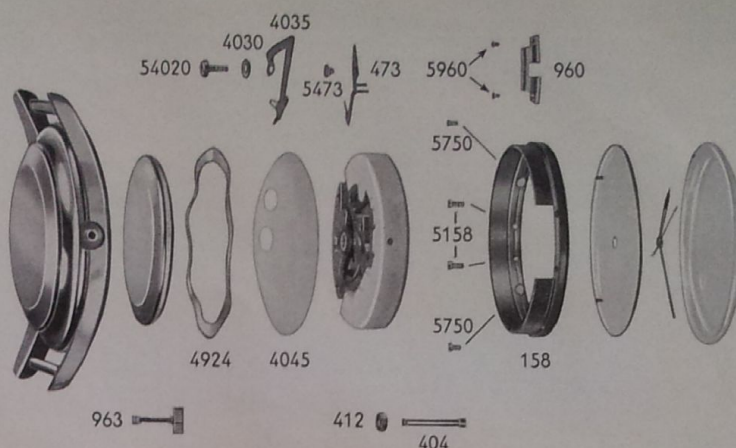

Fig. 5
4. 3. One-piece case (single shell), fig. 5